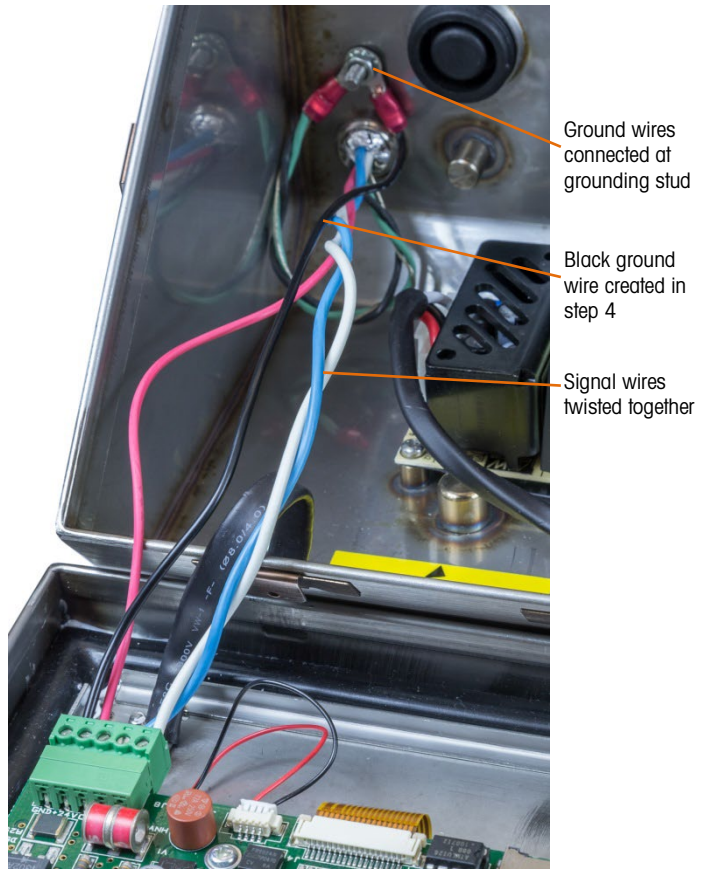

Figure A-55: Internal POWERCELL Cable Connections Completed
5. Attach both ring terminals either to the grounding stud (see Figure A-55).
10. Figure A-55 shows the completed cabling procedure inside the IND246 POWERCELL enclosure.